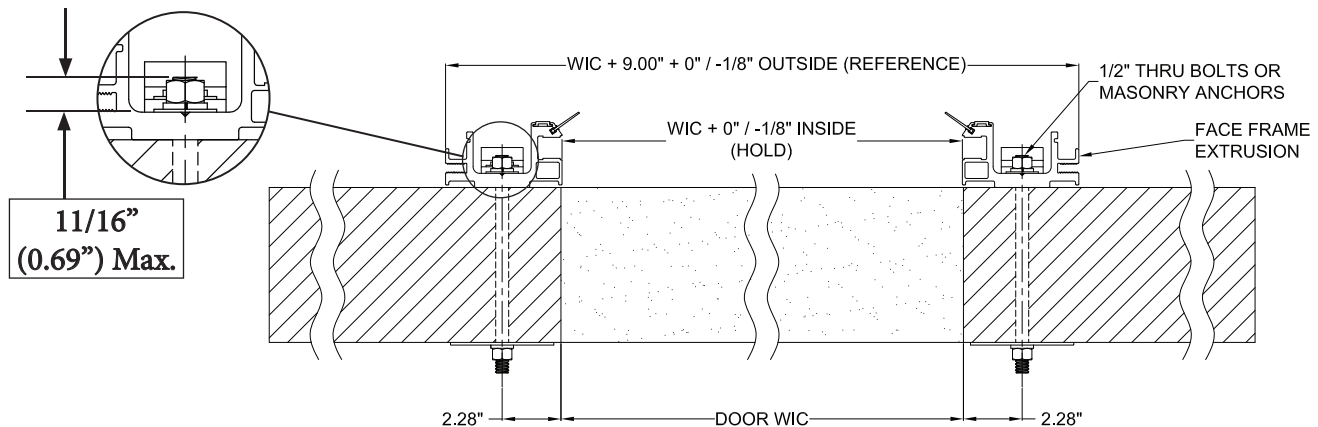

Figure 5: Face Frame Mounting Dimensions
1. Retrieve face frame from shipping crate. If covers are attached to face frames, remove covers before mounting face frames. Note that face frames are handed, and must be installed on the correct side of opening. See Figure 5 for orientation.
3. Figure 5 & 7 show the layout & hardware for mounting face frames. 1/2" through bolts with steel backing plates on the far side of wall are recommended.
7. Position both left and right face frames against the wall. Note the distance between face frames (Figure 5). Recommended minimum hardware is 1/2" through bolts (see warning on page 7). Temporarily secure both face frames to each side of the opening at their approximate mounting locations using c-clamps.